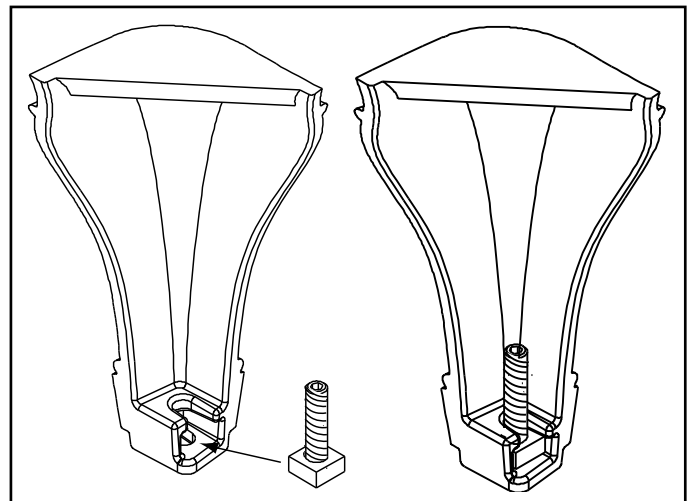

Figure 22.3
9. Slide Allen bolt/nut assemblies into slots of two of the legs with the nuts on the bottom (**Figure 22.3**).